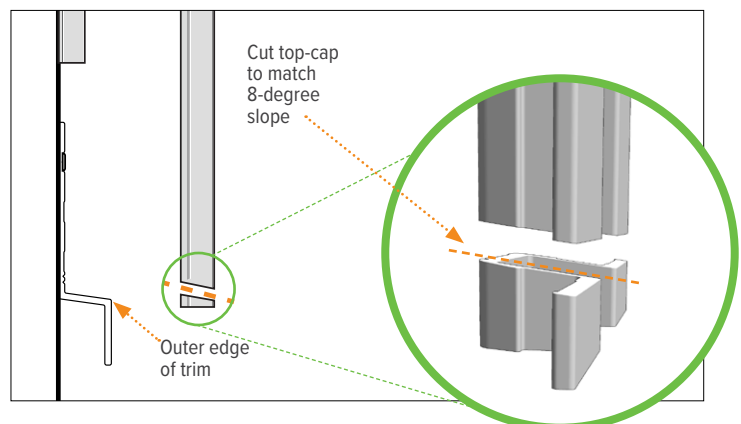

Figure 15.6
11. Measure the vertical **top cap** from the top edge of the panel to the outer edge of the horizontal trim. The bottom edge of the **top cap** needs to be cut at an 8-degree bevel to match the 8-degree slope of all horizontal profiles (Figure 15.6).